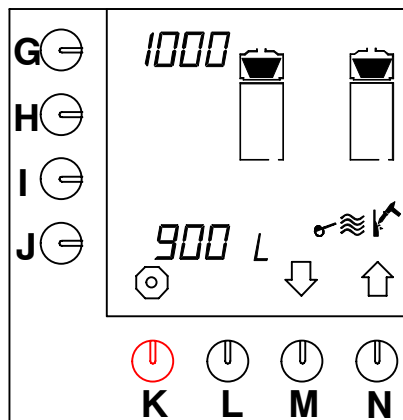

Fig. 52 Descaling signal coffee-making system
- Press (M.)↓ until fig.52 appears on the display.